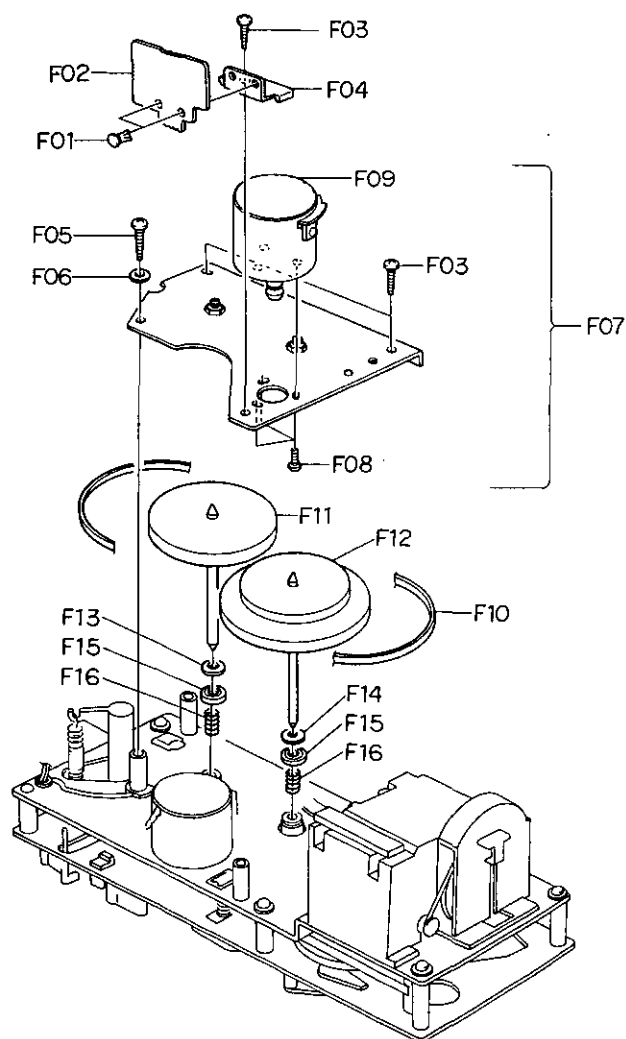

Fig. 2.8
Refer to Fig. 2.8.
- (1) Refer to Fig. 2.8. Remove Flywheel Ass'y referring to item 2.21.
- (2) Remove F01 and F02, then disassemble F03 (Sub Mechanism Chassis Ass'y).